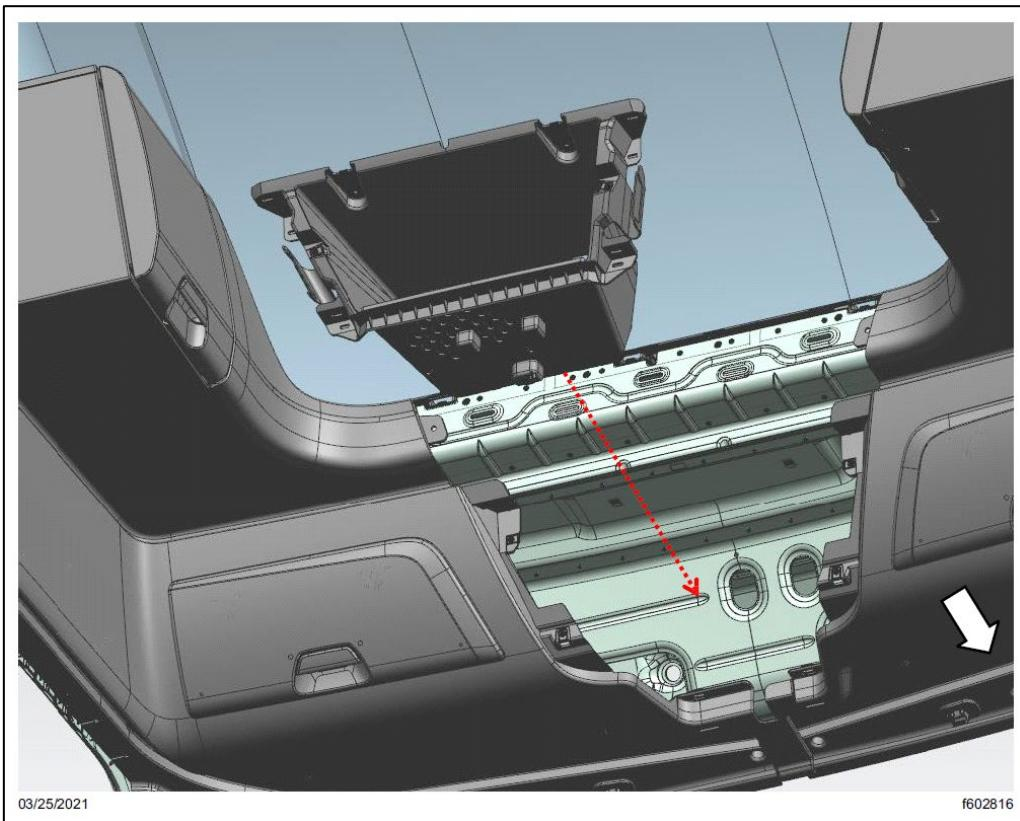

Fig. 62, Snap the Center Storage Bin into Position
14.1. Snap the center storage bin into position between the LH side and RH side overhead storage assemblies. See Fig. 62.